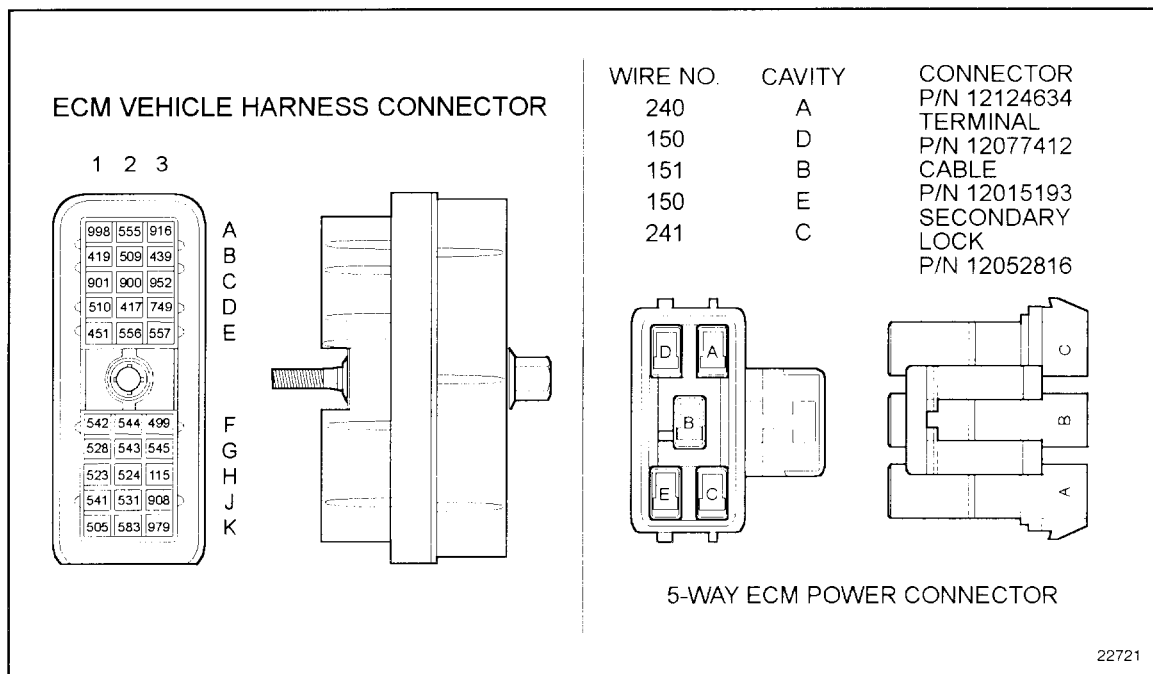

Figure 37-3 ECM Vehicle Harness Connector
2. Disconnect the vehicle harness and 5-way power connectors at the ECM. See Figure 37-3.